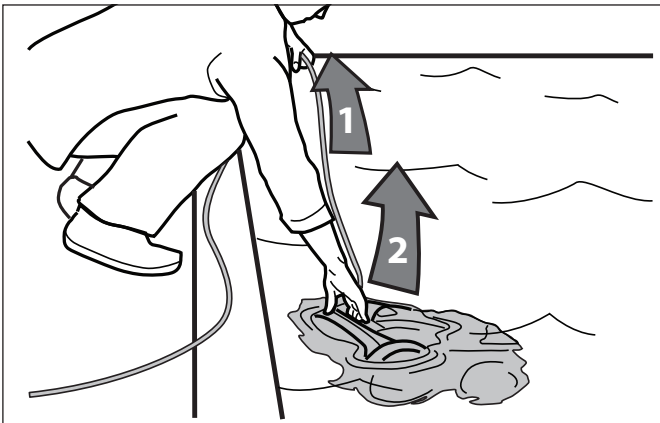

Figure 18. Remove Cleaner From Pool with Handle
2. When the cleaner is within arm's reach, use the handle to remove from the water (Figures 18, 19). Never lift the cleaner out of the pool by the floating cable or swivel.